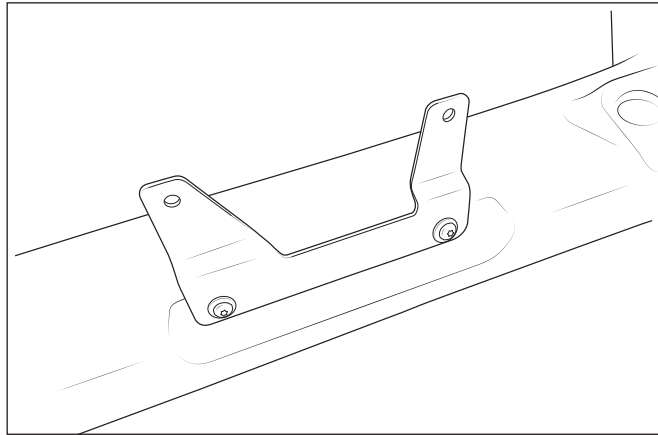

Figure 7
1. Install the large mounting bracket to the bottom of the snorkel using the provided M6 bolts and washers as shown (fig. 7). Make sure the bracket is straight and tighten bolts to 100 in-lb